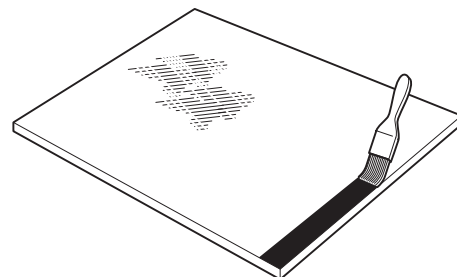

Fig 13.
- b If the glass does not have a black ceramic ink band, paint a band on the glass using 'Black Primer 206J'. The band should be approximately 25mm (1in) wide, and the edge should be a neat straight line. ⇒ Fig 13. \(□ 1-10\).